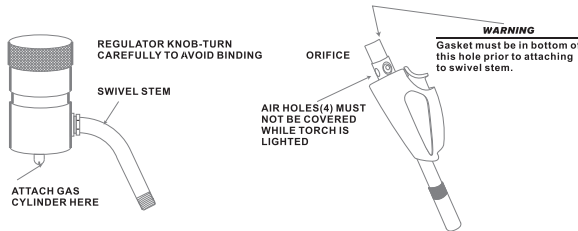

FIGURE 1: TIP/REGULATOR ASSEMBLY
8. It is imperative to check inside the threaded hole at the base of the torch tip to ensure that the small gasket is in place at the bottom of the hold (Figure 1).
- Ensure that the tip is screwed into the swivel tightly (Figure 1). A wrench is not to be used to do this. The air/fuel snake torch is to be assembled by hand and the hose to torch with a wrench.
- To light standard tips, turn the regulator on (counter clockwise), cup the spark lighter over the torch tip in order to collect the gas (Figure 1).
- Tip interchangeability: Other tips are available for the air/fuel torch, but it's imperative to use genuine replacement parts of the same brand. Ensure that the sealing gasket is in place before lighting the torch. (Figure 1)